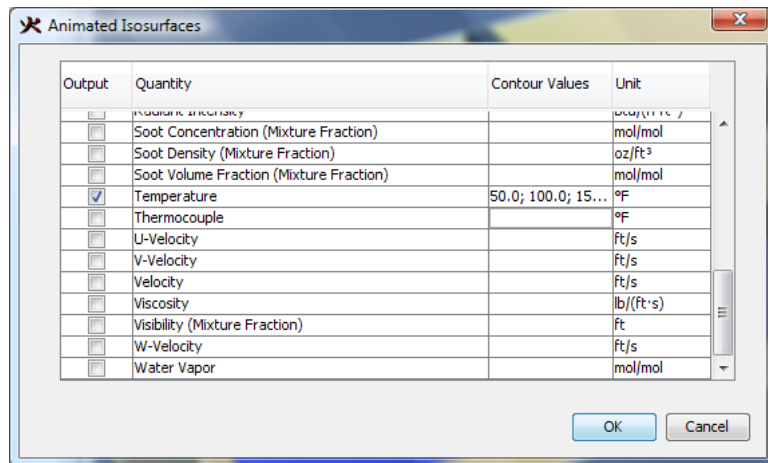

Figure 7.19. Defining the temperature isosurfaces
3. In the **Contour Values** column, enter 50 100 150 200 250, where the contour values are separated by a space, Figure 7.19